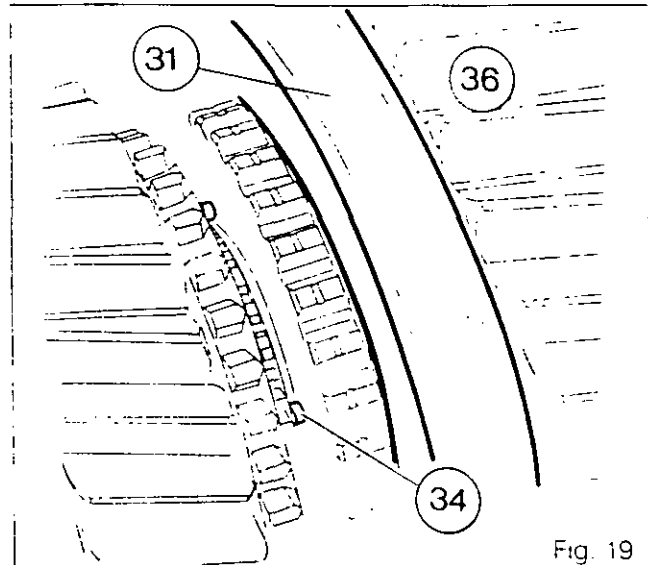

Fig. 19
34. Remove the lock plate (46).
35. Remove the bearing cup (48).
36. Remove the circlip (45).
37. Remove the spacer (43) and shims (42).
38. Remove the taper roller bearing (40).
**Note:** Where shims have had to be inserted between bearings, remove the shim adjuster(s) (47)
39. Remove the roller bearing (39).
40. Remove the shims (38).
41. Engage the High/Low range coupler (31) (Fig. 19) on the Low range pinion (36)
42. Withdraw the shaft (44) rearwards.
43. Remove the circlip (34) using tool MF 460 and discard it (Fig. 19 and 20).
45. Through the inspection panel in the selector rail mechanism cover, withdraw: the hub (33) and its coupler, the gear (29) (3rd gear 4 x 2 gearbox and 4th gear 4 x 4 gearbox), the synchromesh cup (25), the two thrust washers (32)-(27) and the Low range gear (36).
- Note:** Keep the synchro cup (25) with the pinion (29) for possible re-use.
46. Remove the cup (37).
47. Remove the circlip (49).
48. Remove the circlip (19), the washer (22) and the needle roller bearing (24)